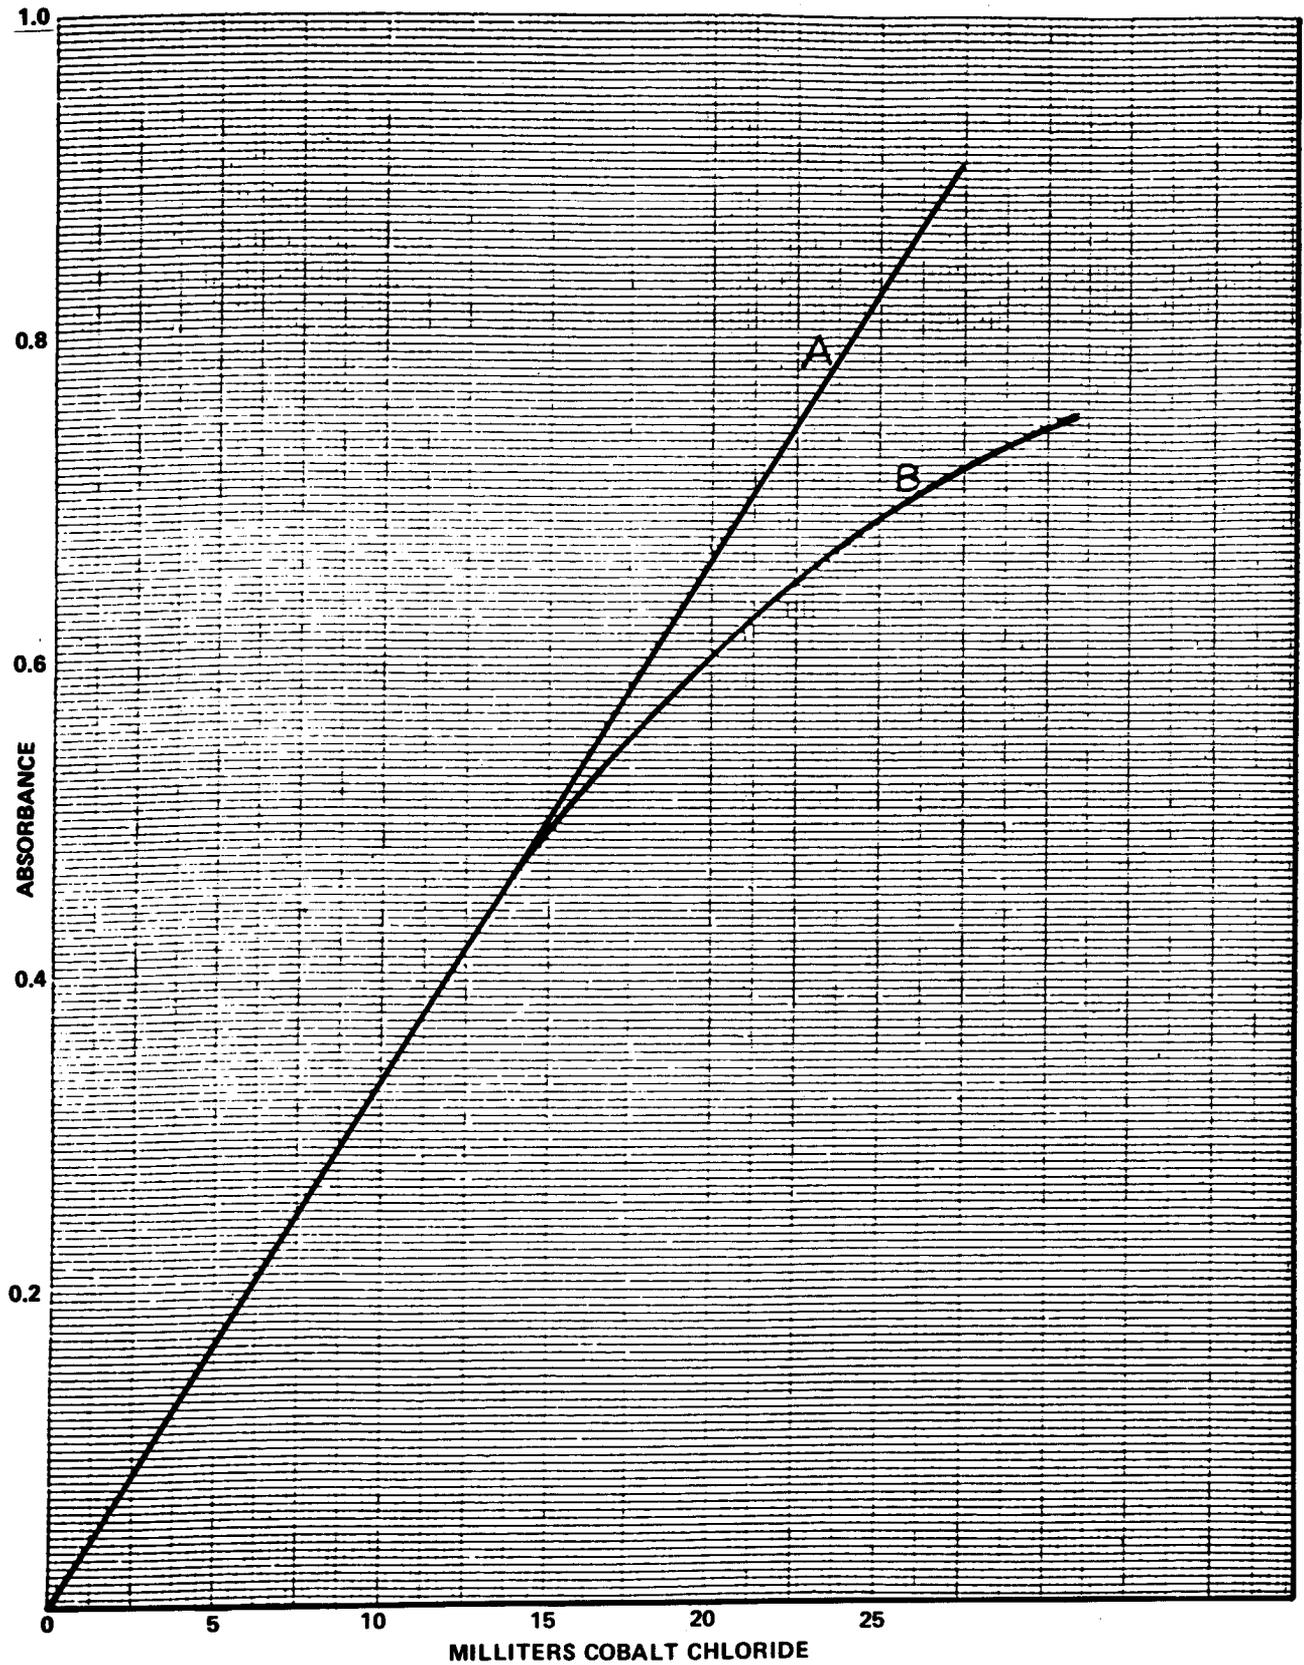

Figure 3-1. Linearity Graph
(1) Fill a clean 50 ml graduate cylinder to the 25.0 mark with cobalt chloride solution. Fill the graduated cylinder to a final volume of 50.0 ml with demineralized water.
(2) Repeat step 1 using 20, 15, and 5 ml of cobalt chloride solution and filling each graduated cylinder to a final volume of 50 ml with demineralized water.
(3) Insert the % transmittance - absorbance meter scale in the meter and adjust the wavelength dial to 510 nm.
(4) Fill a sample cell with demineralized water, place it in the cell holder and set the meter to read 100% T or 0 absorbance.
(5) Place the sample prepared in step (1) in the cell holder and read the absorbance value from the meter scale.
(6) Repeat step (5) using the dilutions prepared in step (2).
(7) Graph the results on linear paper, plotting the ml of cobalt chloride solution used for each sample versus the absorbance reading obtained in figure 3-1.
The results should be a straight line passing through zero as shown by plot A on the graph (fig 3-1). Deviations from a straight line such as plot B may be caused by stray light due to light leakage, optical imperfections or improper optical alignment and maintenance. Turn improper performing instruments in for a replacement.